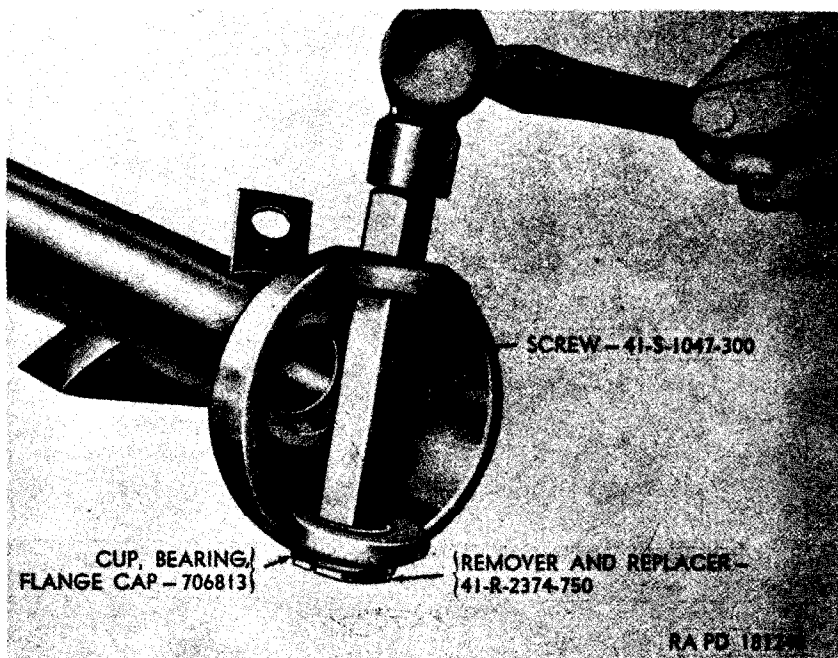

Figure 110. Removing bearing cup from front axle steering knuckle.
- (4) Do not remove the steering knuckle flange cap bearing cups (M and AA, fig. 95), from the spherical ends unless inspection reveals them to be unserviceable. To remove bearing cups, drive them out with remover and replacer 41-R-2374-750 and screw 41-S-1047-300 (fig. 110).